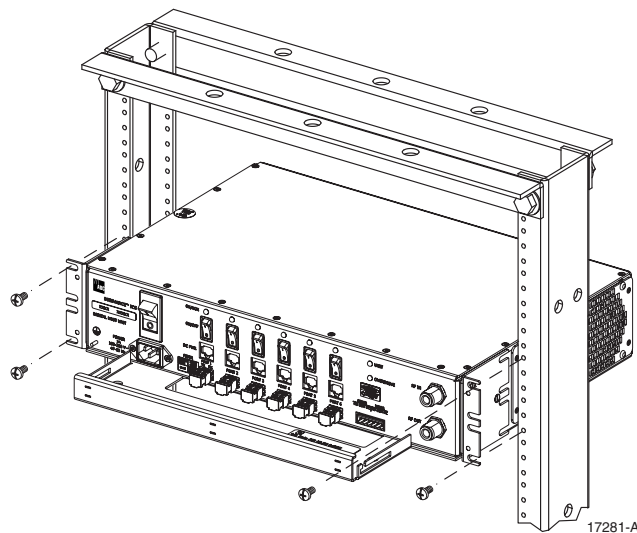

Figure 14. DHU Rack Mount Installation
4. Position the DHU in the designated mounting space in the rack (per system design) as shown in Figure 14.